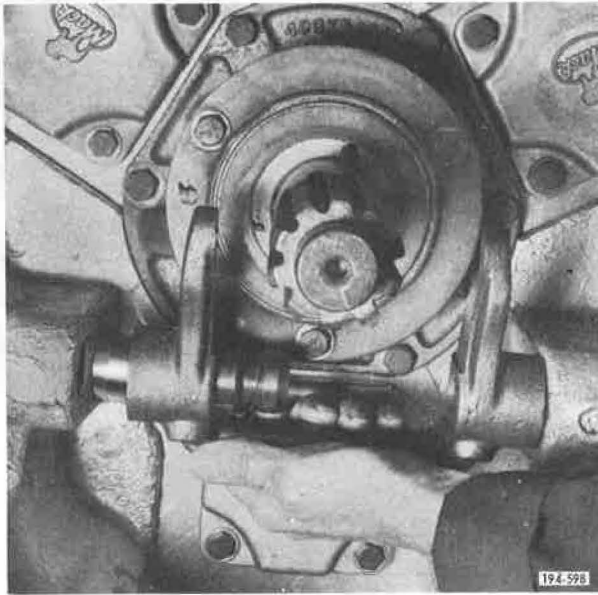

Figure 5-547. Installing Yoke and Stub Shaft
22. Install setscrew and tighten to recommended torque. See Figure 5-547. Refer to Torque and Tolerance Table, Item 1.